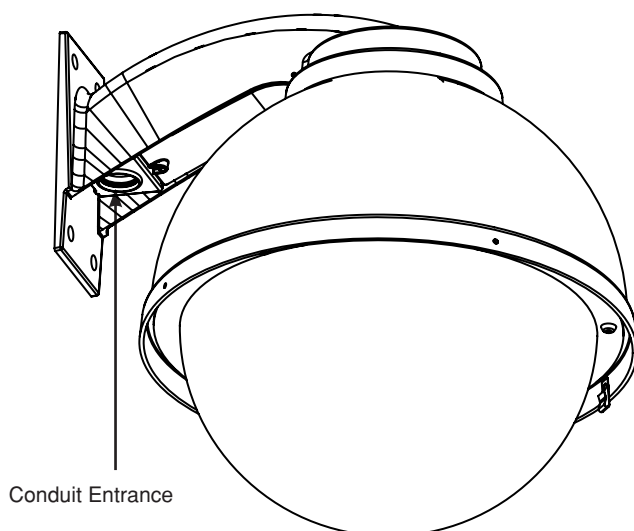

Figure 2
3. Open the access door on the bottom of the wall mount by loosening the screw nearest the mounting plate (Figure 2).